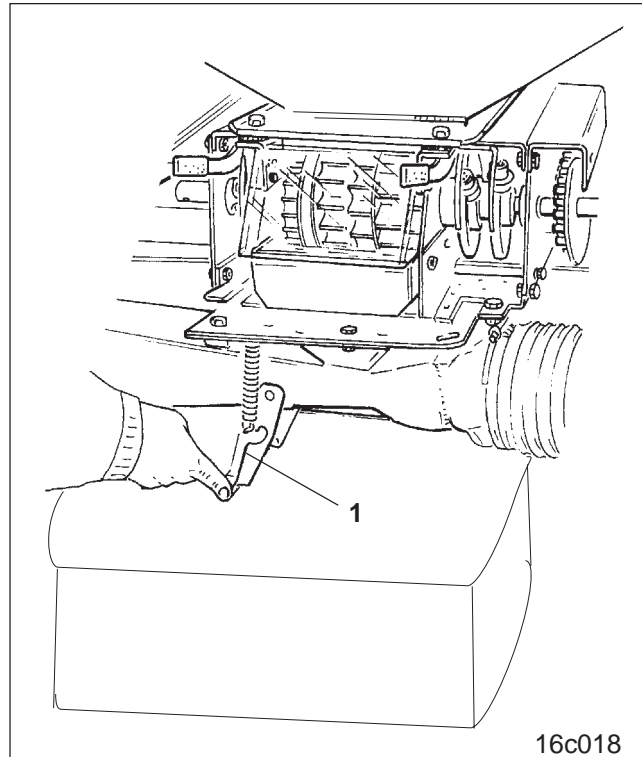

Fig. 10.3
Place the calibration tray (Fig. 10.3) below the metering unit. If necessary slightly lift the soil tillage implement with the seed box before.
Open the injector sluice flap (Fig. 10.3/1).
- Shut injector sluice flap (Fig. 10.3/1, fit calibration tray to the seed box and secure with a clip pin.